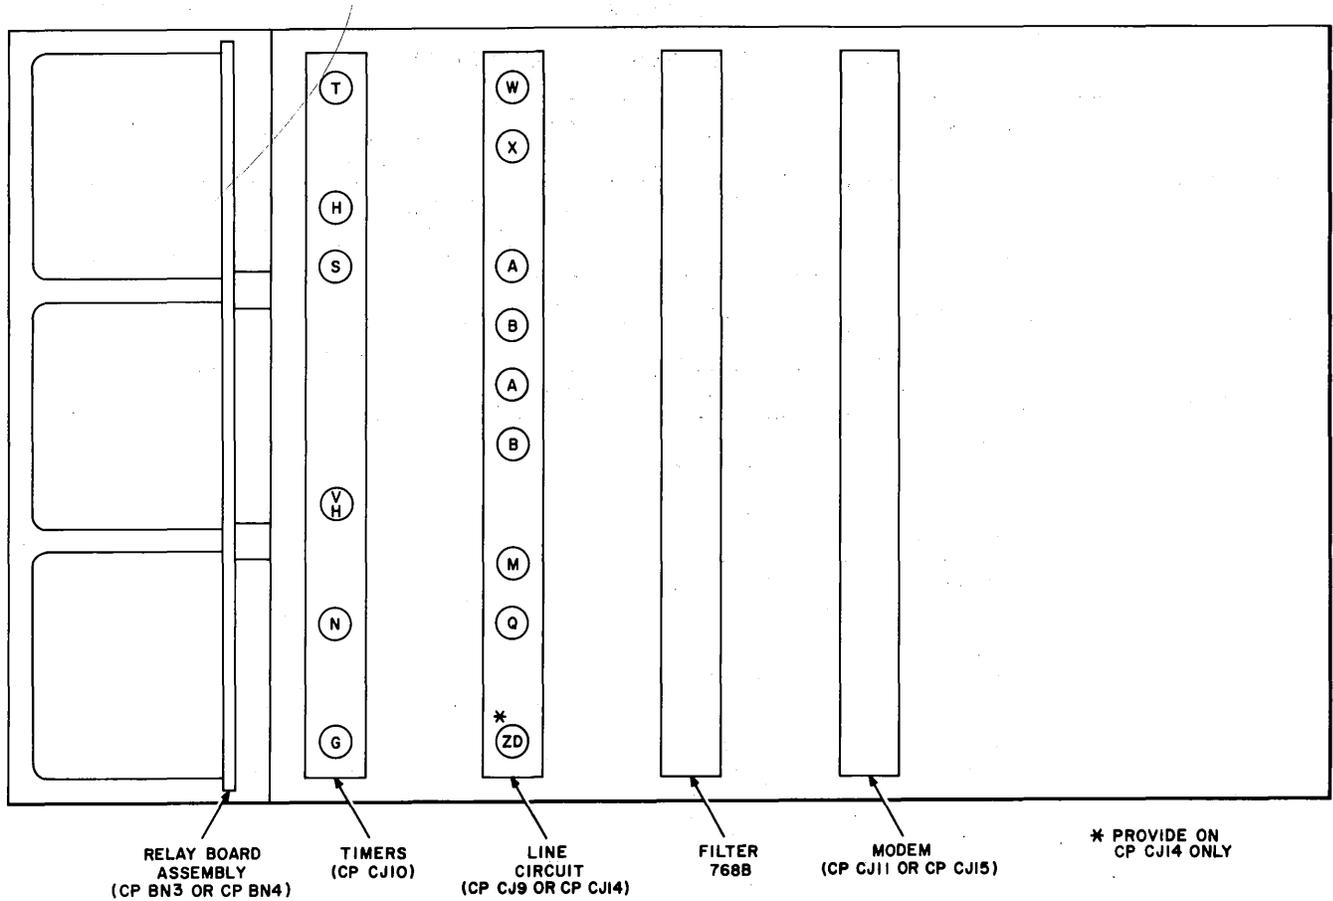

Fig. 20—Data Sets 103E5 and 103E6—Circuit Pack Locations and Option Screw Settings
5.05 Install options on the circuit packs of each *Data Set 103E5 or 103E6* as shown in Table D. Reference to Fig. 20 may be helpful to locate the option screws to be *tightened* for each option.